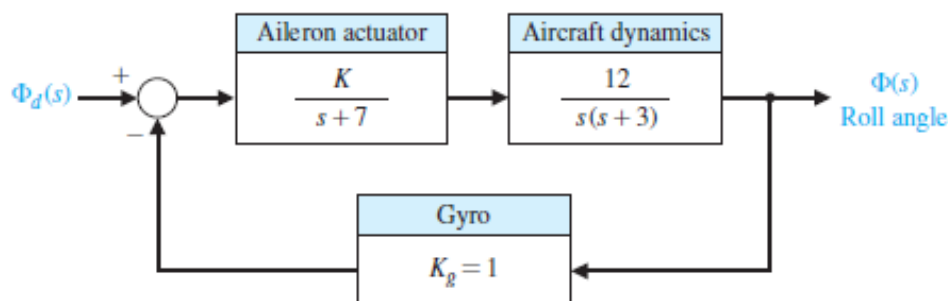

Figure 2. Roll Angle Control System
2. Consider the system given in preliminary work Figure 2. Construct the circuit on LabVIEW